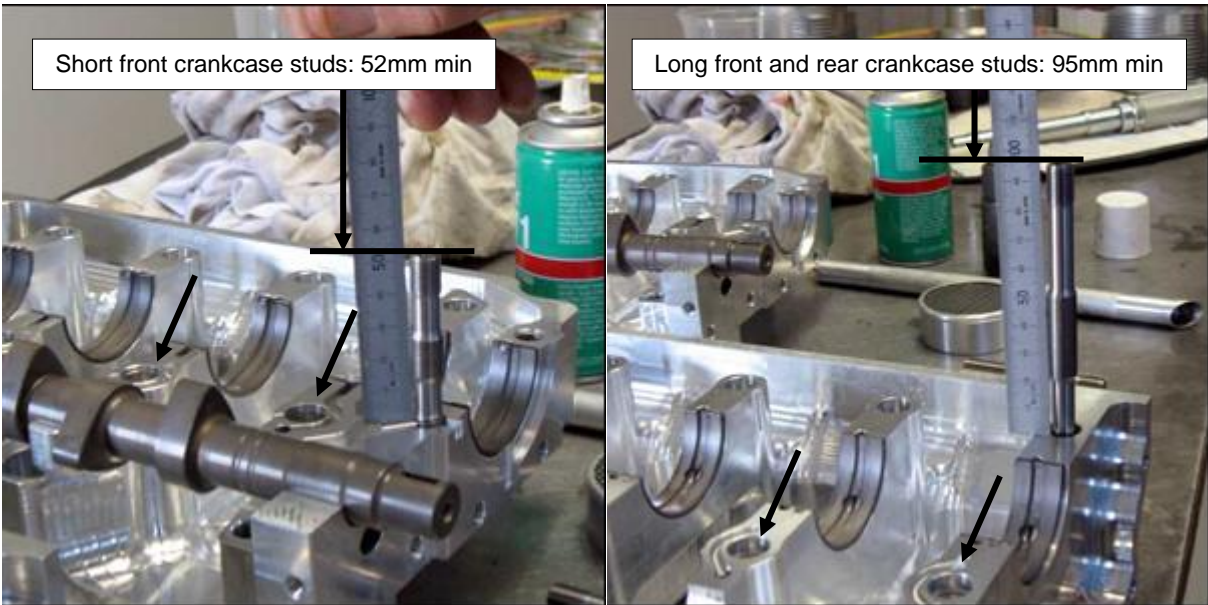

Figure 126 – Crankcase Assembly Preparation
- Lubricate and fit the O rings to the bottom main bearing stud holes (arrowed in Figure 126 - left) and then fit the front and rear crankcase studs using Loctite 263 Thread locker: clean and prime the threads first using Loctite 7471 cure accelerator. Use a collet type stud tool to screw the 2 short front crankcase studs to a free length of 52mm and the 2 long front and the 2 rear crankcase studs to a free length of 95mm as shown in Figure 126. Note: Later longer studs are positioned 54mm and 97mm free length above the crankcase join.